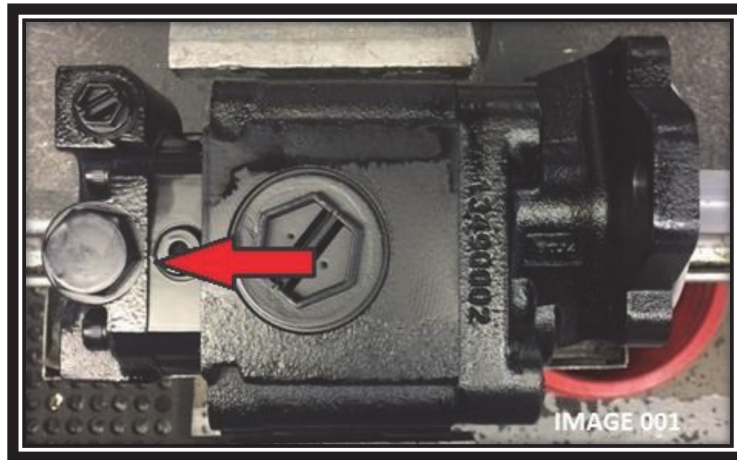

FIG. 3-1
3. Install the 30mm socket on the hex head cover and remove the cover shown. NOTE: The cover will be under a slight spring pressure. Refer to FIG. 3-1.